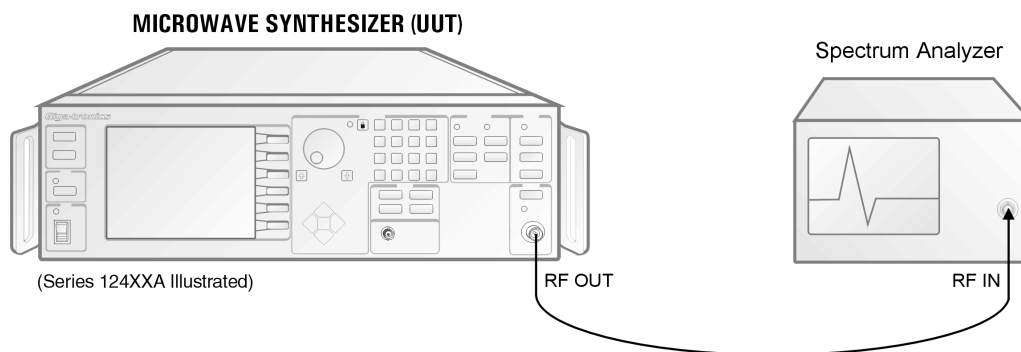

Figure 4-2: Spurious Signals Tests
1. Connect the equipment as shown in Figure 4-2. Allow the equipment to warm up for at least 30 minutes. Press **[CW]** in the FREQUENCY field on the 12000A and enter the first test data sheet frequency within the range of the 12000A. The RF amplitude should be at +6 dBm. Press **[RF ON]** to turn on the RF output. Be certain that all modulation is OFF.